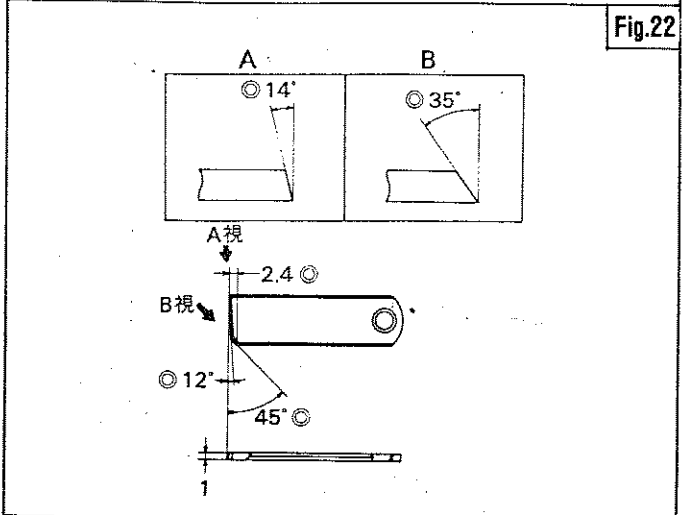

Fig.22
- (2) Refer to Fig.22 for Lower Knife.